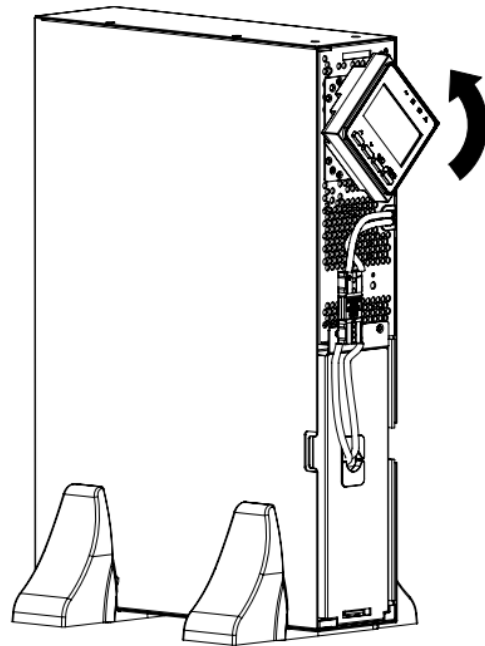

Figure 53: Manually Rotate the Display on the 1-3kVA UPS Units
2. Before the installation of the UPS faceplate, place the unit into the tower kit, for UPS units manually rotate the LCD panel to vertical display (see Figure 53). The EBP Battery Pack signage does not rotate.